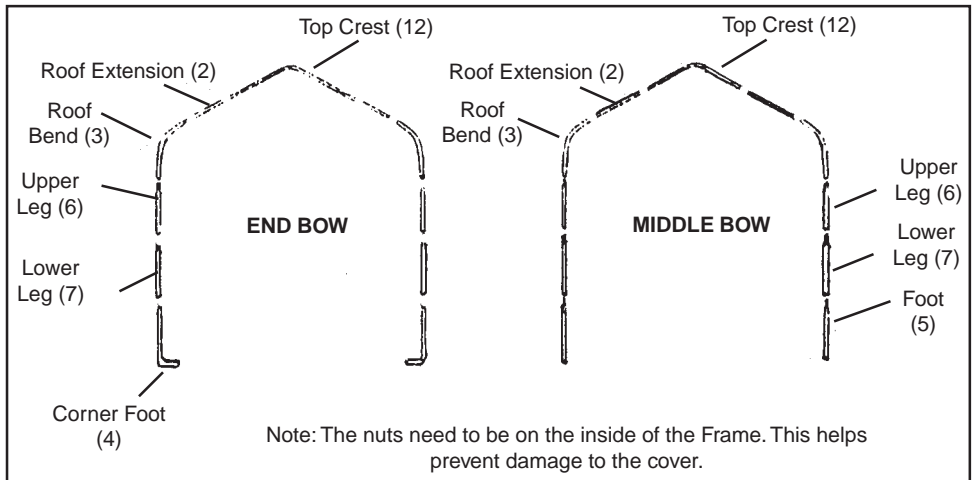

Figure 1
Assemble the End Bows and the Middle Bows as shown in **Figure 1**. Parts are attached using a 3” Bolt (14) and Nut (16) at each junction - see **End and Middle Bows**, below.
Starting with two Corner Feet (4) (left side and right side) for each end, work your way up bolting connections together. Connect the Lower and Upper Legs (7,6), Roof Bend (3), and Roof Extension (2). Complete the End Bows (qty. 2) by connecting the left and right sides with (12). **See Figure 1.**
The middle bows have the same procedure as above, except the lowest pieces are the Feet (5). **See Figure 1.**